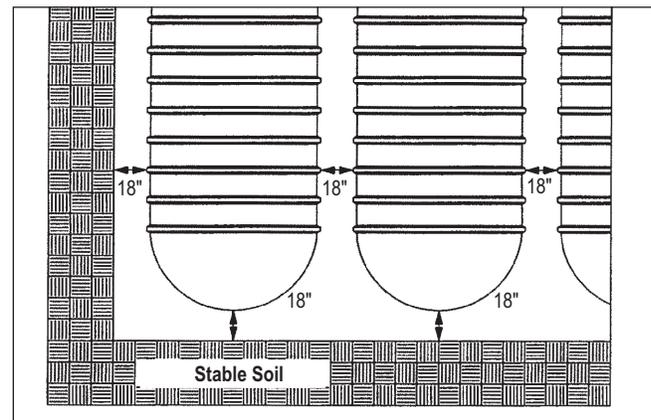

**FIGURE 7-2**
7.5.1.2. Always provide sufficient clearance to allow the deadmen to be set outside of the tank "shadow." See FIGURE 7-2.
7.5.2.3. If two or more tanks are installed in the same hole and deadmen are used, the space between the tanks must be equal to or greater than two times the width of the deadman or deadmen required between the tanks. See FIGURE 7-2 and TABLE 8-4.